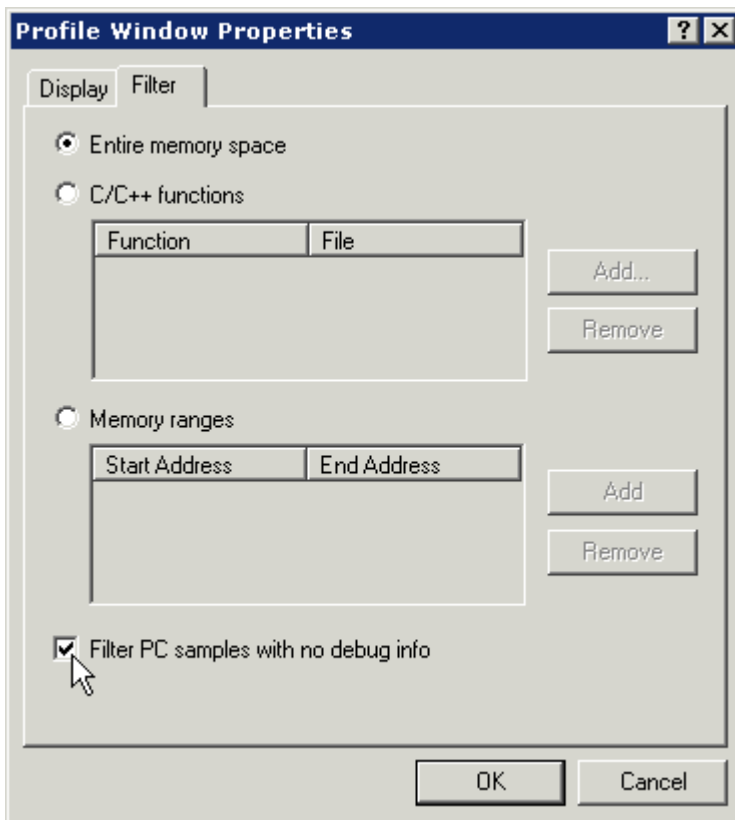

Figure 2-34. Filtering Samples with No Debug Information
- Right-click in the **Linear Profiling Results** window and choose **Properties** to display the **Profile Window Properties** dialog box, shown in Figure 2-34.
- Select the **Filter** tab (shown in Figure 2-34) and then click in the **Filter PC samples with no debug info** check box to enable the filter. Click **OK** to close the dialog box.